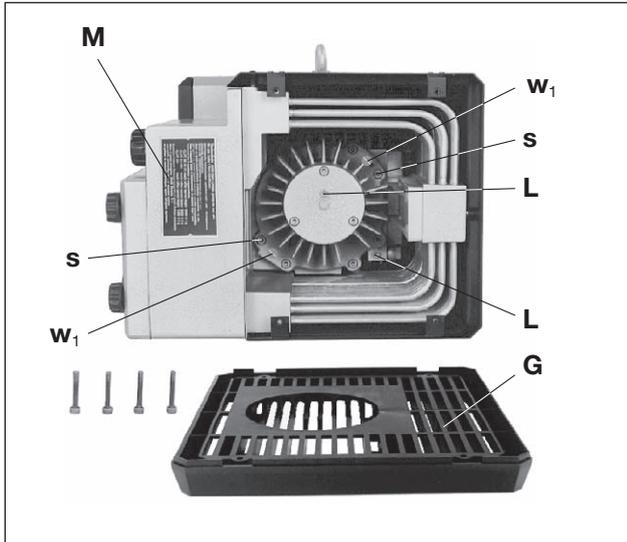
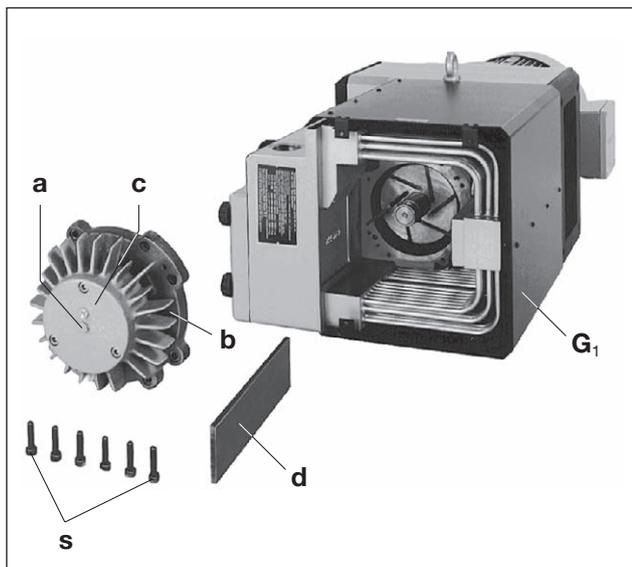
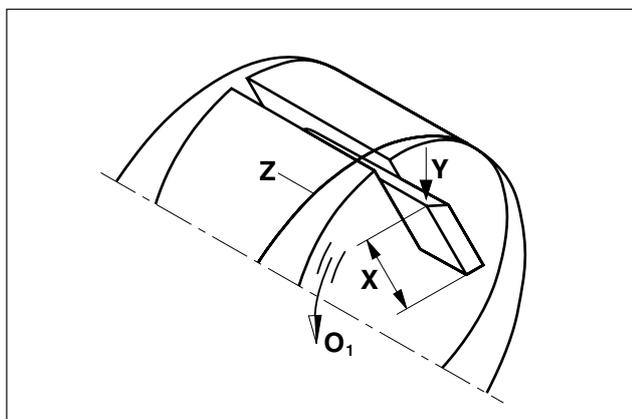

Fig. 4 Lubrication/ Blades
Fig. 5 Lubrication/ Blades
Fig. 6 Blades
The bearings must be greased at the 2 greasing points (Fig. 4/L) with 6 g per point, after the following recommended operating hours or at the latest one year operation:
To lubricate the inlet grating (Fig. 4/G) must be unscrewed.
We recommend the following brands of grease: KlüberPetamoGY193 or other equivalent greases (see also grease recommendation plate (Fig. 4/M)).
First check after 4,000 operating hours and then every 1,000 operating hours or, depending on the height (Fig. 5/X) earlier.
Remove inlet grating (Fig. 4/G). To remove the end cover (Fig. 5/b) from the housing, the bolt (Fig. 5/a) located in the centre of the bearing cover (Fig. 5/c) should be removed. To achieve this one of the fixing bolts (Fig. 5/s) from the housing cover should be screwed into the thread in the centre of the bearing cover. Remove the blades (Fig. 5/d) to be checked. All blades on the machine must have a minimum height (Fig. 6/X) of more than 38 mm.
Do not undo the **slotted nuts** (Fig. 4/w1) on the housing lid (Fig. 5/b). Only the screws (Fig. 4/s) need to be removed to change the blades.
Before refitting the blades clean out the housing and the rotor slots with compressed air. Place the blades, with the radius outwards (Fig. 6/Y), such that the bevel is in the direction of rotation (Fig. 6/O1) and corresponds with the radius of the housing (Fig. 6/Z).
Before refitting the end cover (Fig. 5/b) redistribute the grease from the bearing cover (Fig. 5/c) on to the appropriate bearing. It is important that the shaft end is completely clean so that no grease can enter the housing, this could mix together with carbon dust and give a viscous paste which would result in the blades becoming stuck in the rotor slots.
When re-fitting the end cover tighten the bolts evenly so that the end cover fits correctly onto the fixing pins. As soon as the cover is almost touching the housing, we recommend during further tightening of the bolts, the fan is moved in both directions. This can be achieved by taking the grill at the cooling air exit (F) away. This then ensures that the blades are sitting correctly in their slots and avoids any edge damage. Refit the suction grid (Fig. 4/G).